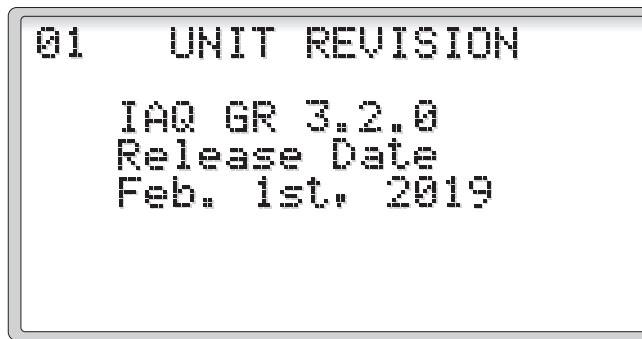

Figure 73
2.3.4 Unit Revision (Figure 73)
The Unit Revision screen shows the version of the application program that is running along with the release date of the software, see Figure 73. This information should be passed to Desert Aire in the event a service call is necessary.